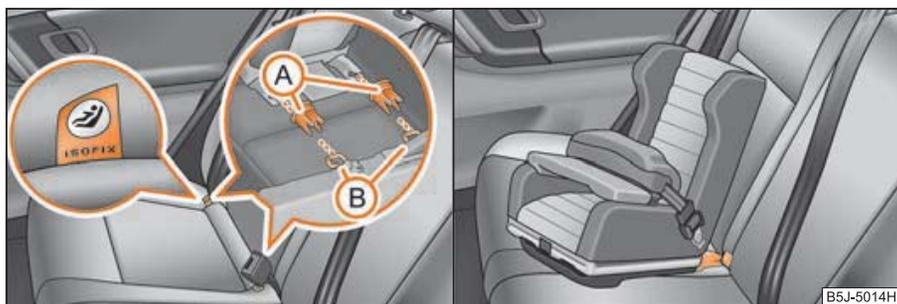

Fig. 129 Locking eyes (ISOFIX system)/Push the ISOFIX child seat into the installed mounting funnels
- Insert the mounting funnels (A) onto the locking eyes (B) between the seat backrest and the seat cushion ⇒ fig. 129.
- Push the notched arms of the child seat into the locking eyes until they are heard to lock in place ⇒ fig. 129.